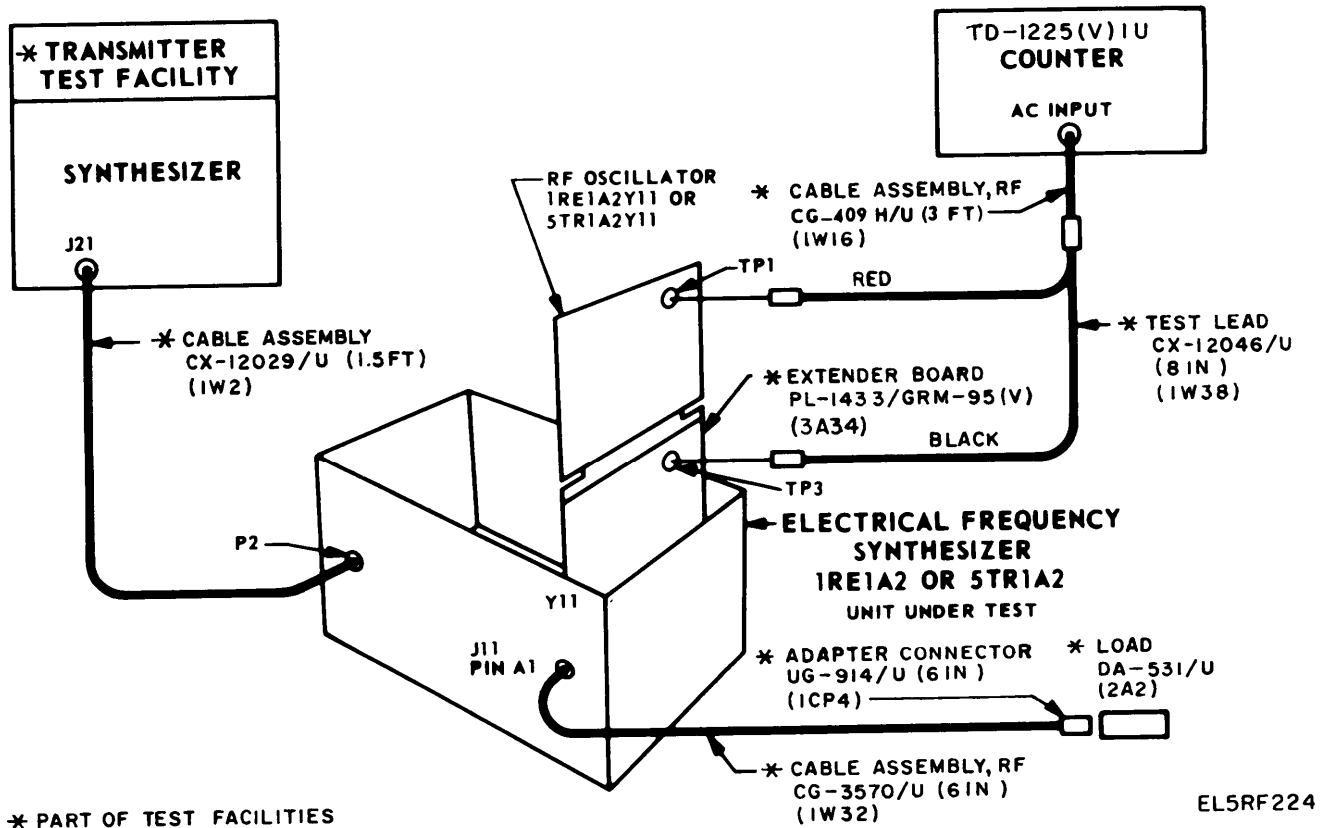

Figure 3-93. Rf Oscillator 1RE1A2Y11 or 5TR1A2Y11 Frequency Check, Test Setup.
(e) Extend rf oscillator board 1RE1A2Y11 or 5TR1A2Y11 from the synthesizer using extender board PL-1433/GRM-95(V) as shown in figure 3-93.